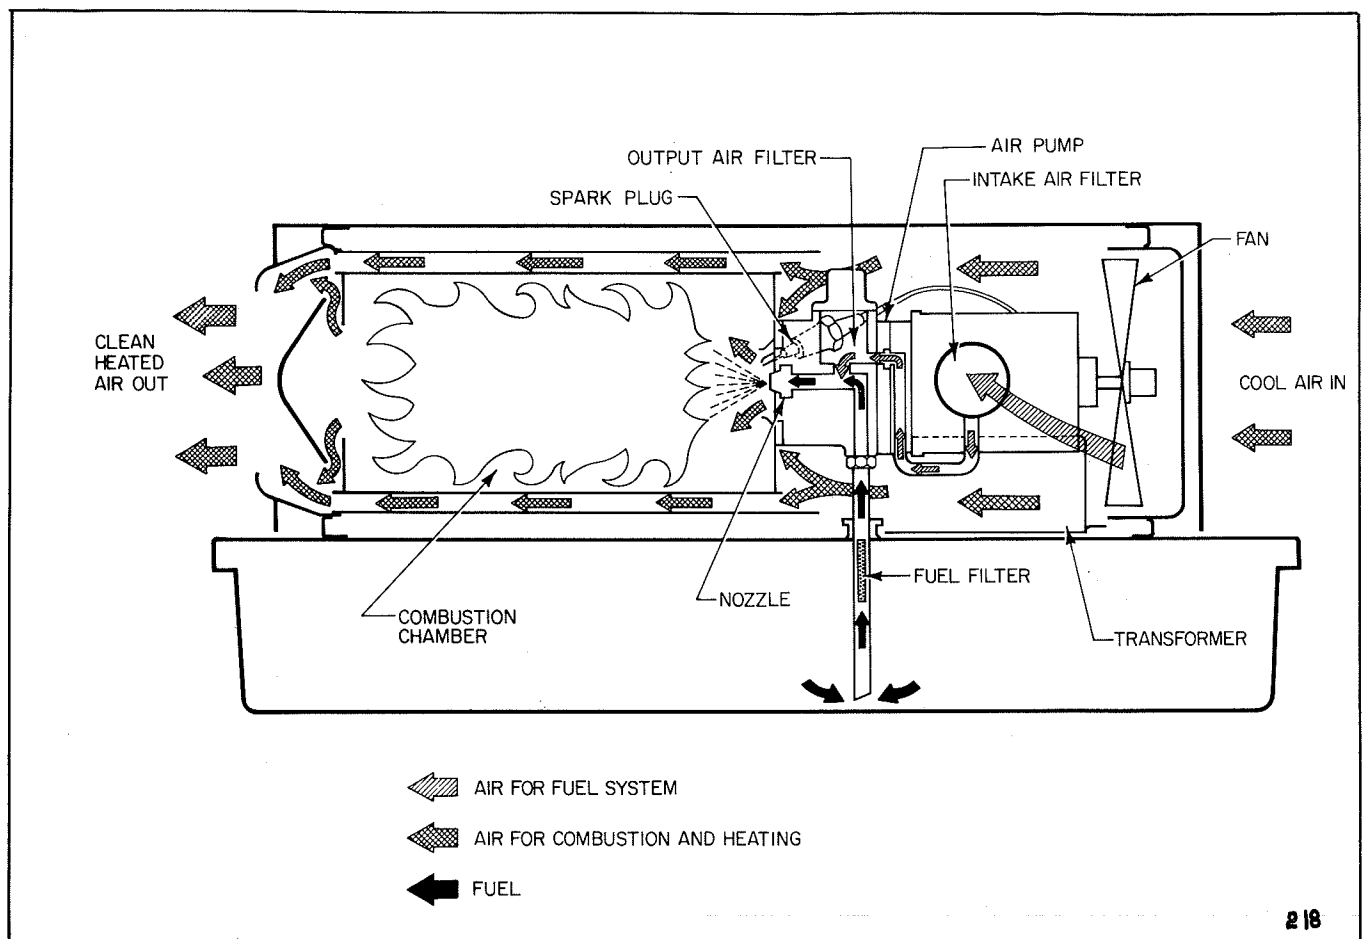

Figure 1. Flow Diagram
1. Fuel System. Operation of the heater is easy to understand. It consists of three simple systems. (See Figure 1.) An air pump on one end of the motor shaft forces air through the nozzle. The moving air